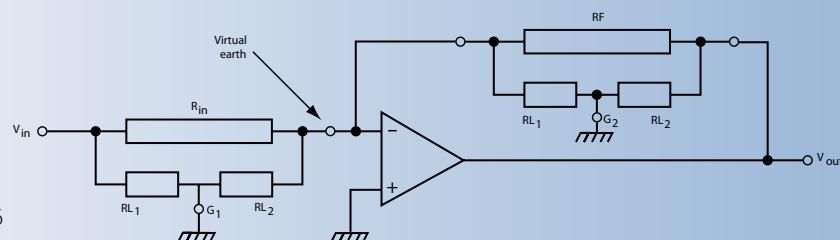

Figure 6
The high value resistor with leakage may be placed in the input (Rin) or feedback (RF) positions or both, as shown in Figure 6, but in either case the grounding of the guard band prevents leakage currents at the virtual earth, and the amplifier gain will be $-RF/R_{in}$.